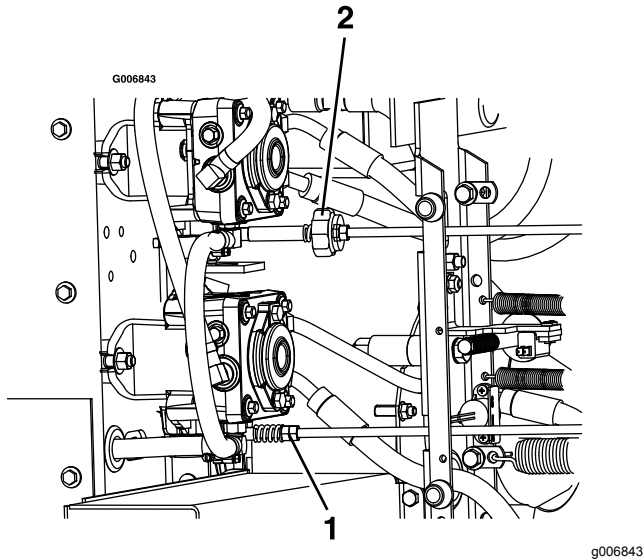

Figure 57
9. To obtain the NEUTRAL position, adjust the left and right pump-control-rod linkages that connect the steering control to the pump-control arms until the wheels stop or creep slightly in reverse (Figure 57).
- Adjust the right pump linkage by using a wrench to turn the double nuts on the assembly (Figure 57)